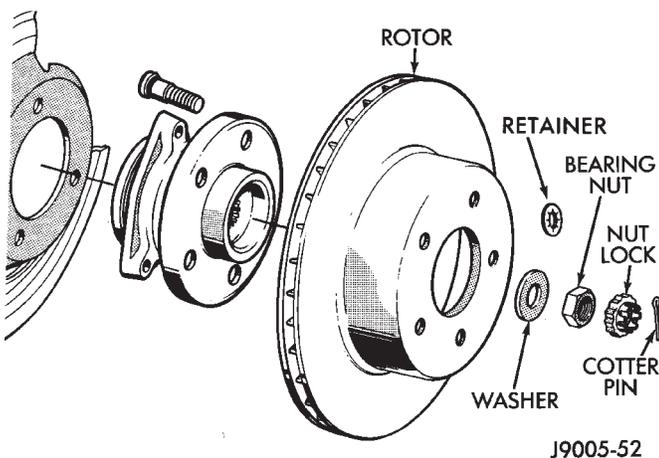

Fig. 35 Rotor & Hub
- (1) Remove wheel and tire assembly.
- (2) Remove caliper.
- (3) Remove retainers securing rotor to hub studs (Fig. 35).
- (4) Remove rotor from hub.
- (5) If rotor shield requires service, remove front hub and bearing assembly.